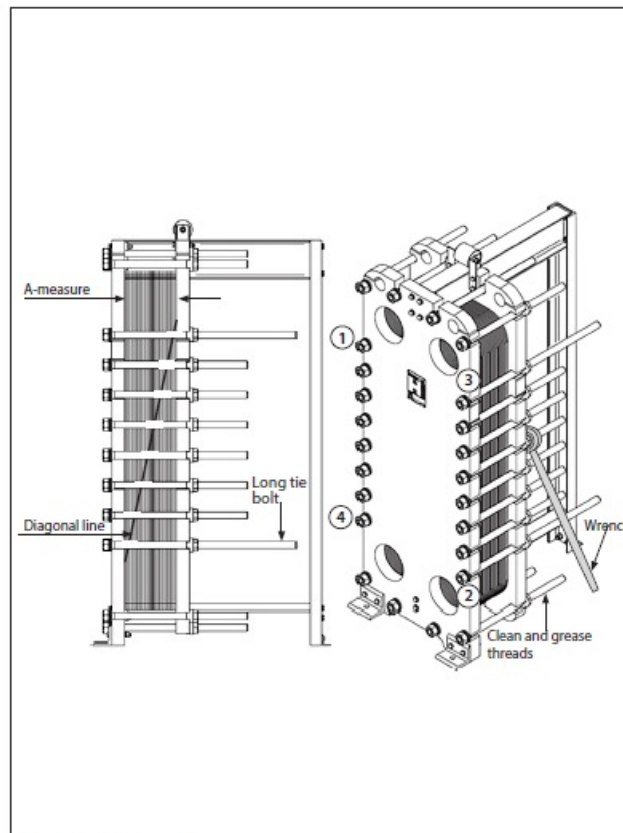

Fig. 10. Opening the plate heat exchanger
- Mark the plate package before opening. This can be done by a diagonal line (see fig. 10) or by numbering each individual plate in sequence
- Loosen the long tie bolts evenly in the numbered order 1, 2, 3, 4 (fig. 10) i.e. the follower shall have a parallel opening motion